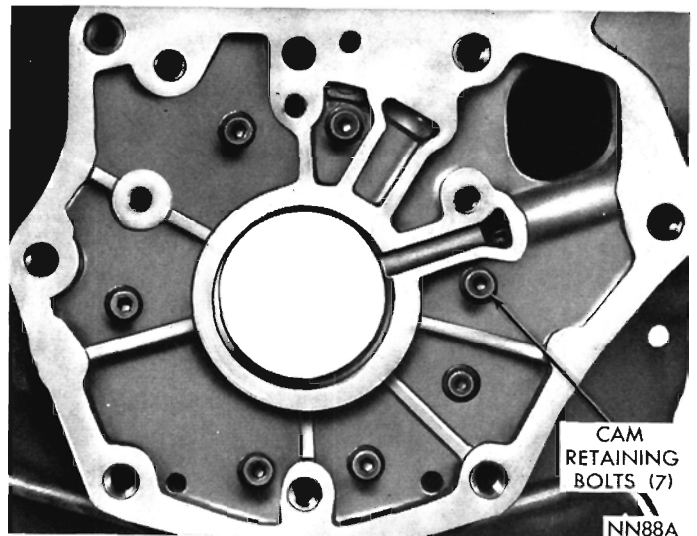
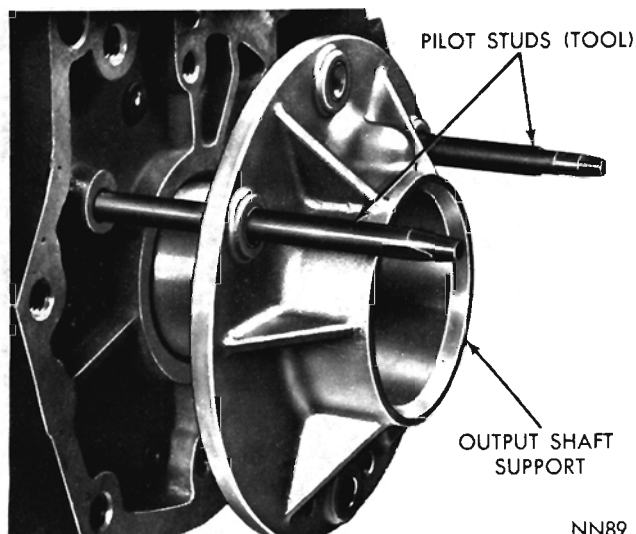

Fig 88—Cam Retaining Bolts Installed (A-904)
Fig. 89—Installing Output Shaft Support (A-904)
(5) To install, position cam and roller spring retainer in the case. Align cam bolt holes with holes in the case, then thread all seven retaining bolt and washer assemblies into cam a few turns. The cone washers must be installed so inner diameter is coned toward the bolt head (Fig. 88).
(6) Tap cam firmly into the case if necessary. Draw retaining bolts down evenly, then tighten to 100 inch-pounds.
(7) Screw two pilot studs, Tool C-3288 into the case (Fig. 89). Chill the support with ice (preferably dry ice). Quickly position support over the pilot studs, and drive it firmly into the case with a wood block and hammer.